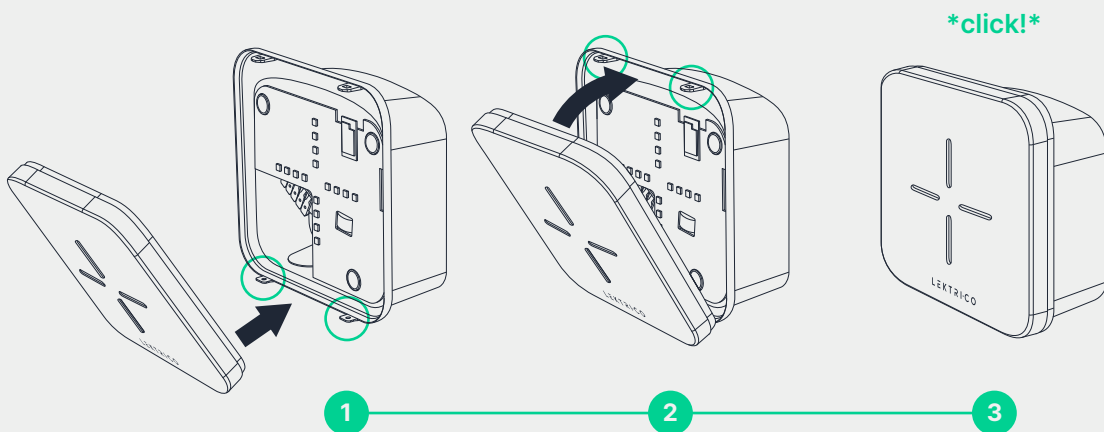

Fig. 10 - Install the front cover
19. Install the front cover by gently pushing it into place, first in the bottom 2 fixing hooks and then in the 2 top fixing hooks. (Fig. 10)